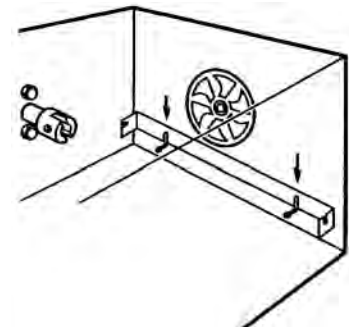

Figure 2. Replace Shaker Bracket
- Loosen existing screws at the bottom of the oven back sufficiently to allow slots in bracket to slide down onto screw shafts. Retighten screws to secure back plate. See Figure 2.